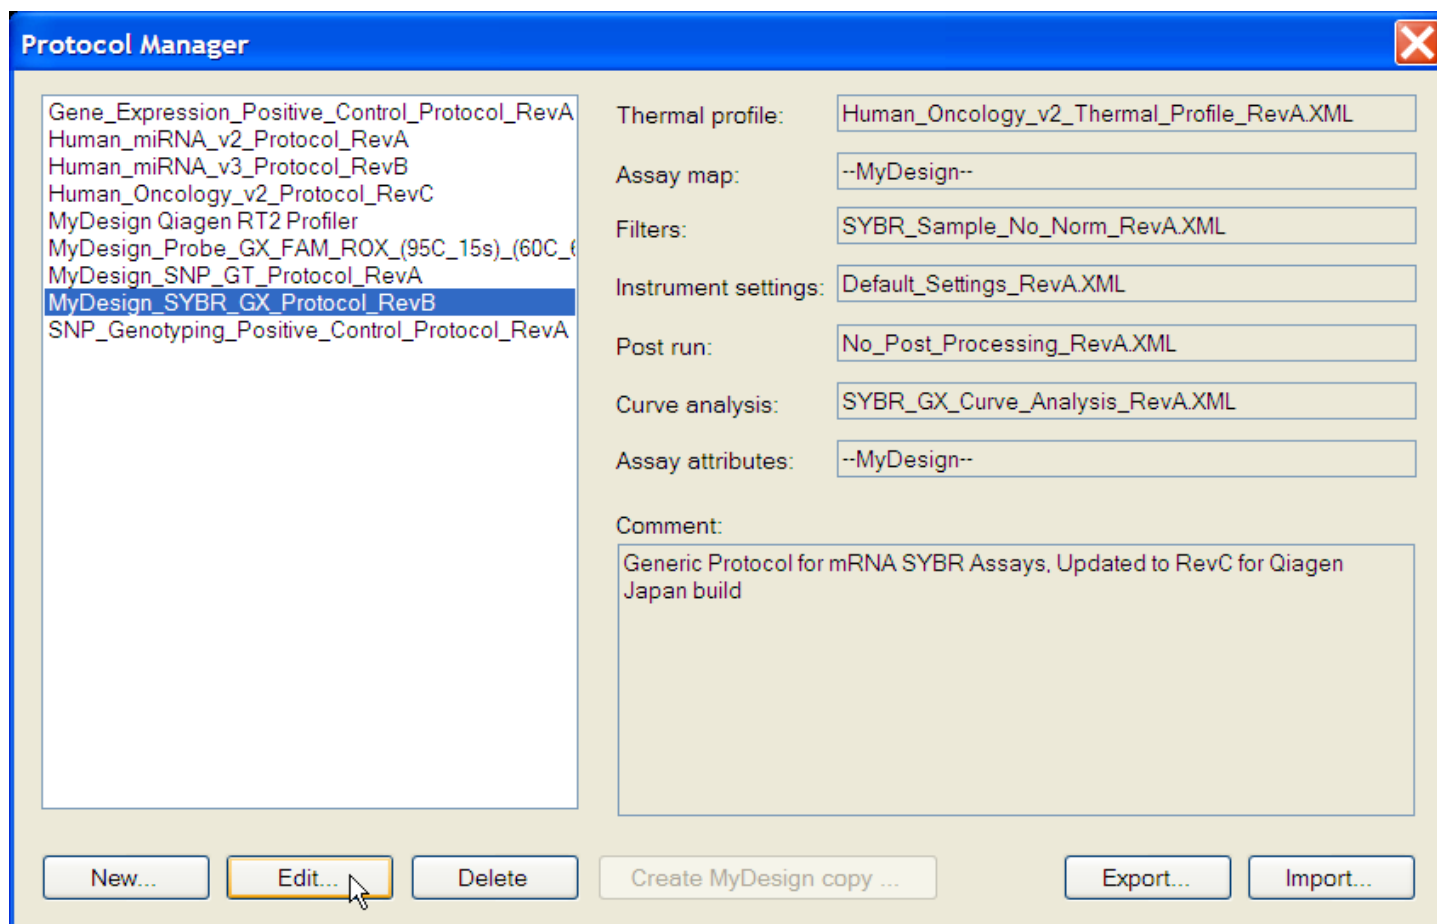

Figure 19. Protocol Manager window.
- ii. Choose a protocol from the *Protocol Manager* (Figure 19) and click [Edit].